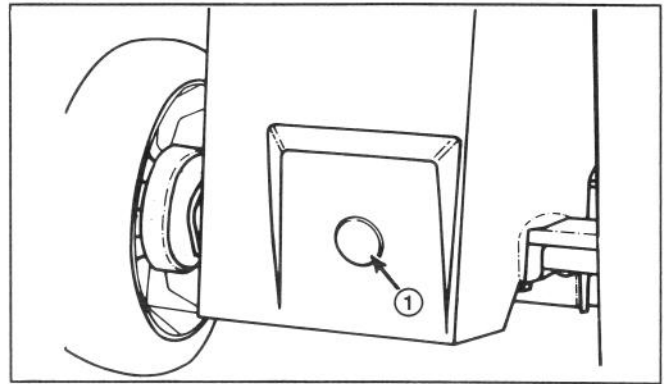

Figure 27
3. Set mower in highest height-of-cut setting (E).
4. Remove plastic access hole plug from rear of mower (Fig. 27).